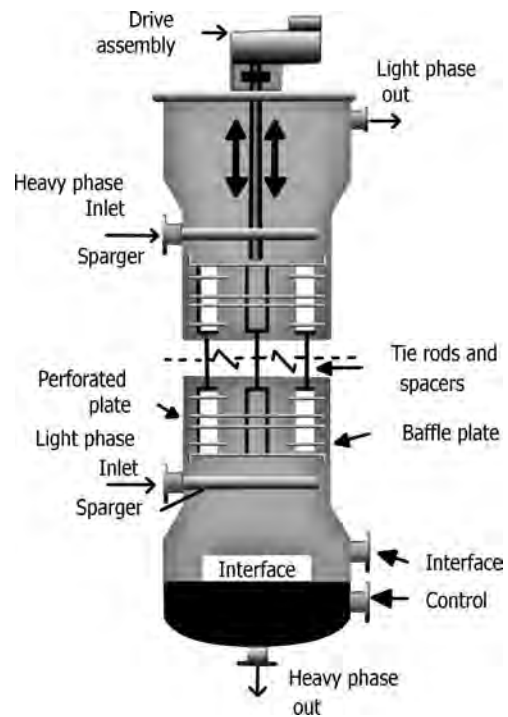

FIGURE 17.56 Karr extraction column.
- Figure 17.56 illustrates Karr column.